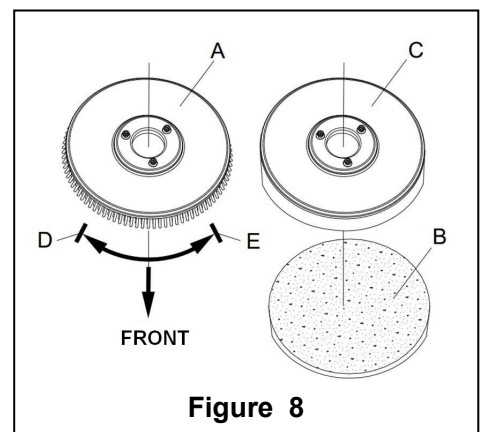

Figure 8
According to the type of floor to be cleaned, the machine may be installed with brush (Figure 8, A), or a pad-holder (Figure 8, B and C).
1. (Only applicable to **AS430B** and **AS510B**): make sure the switch (41) is at the disconnecting (**O**) condition.
2. Press down the handlebar (2) to lift the tank body (26).
3. Put the brush (A) or the pad-holder (B – C) under the case.
4. Use the handlebar (2) to lower the tank body (26) to come into contact with the brush or pad-holder.
5. To install the brush/pad-holder automatically, turn the power switch (41) to the “I” position and press down the safety switch (1). Gently push the machine forward so as to allow the belt wheel at the bottom of the tank body to align with the brush or pad-holder which can then be installed. Then release the safety switch. If necessary, repeat this procedure until the brush/pad-holder is installed.
6. If Step 5 above proves to be difficult, use the manual method by following the arrow head (D) to install the brush/pad-holder (as shown in **Figure 8**).
7. To automatically unload the brush/pad-holder, turn the power switch (41) to the “O” position. Use the hand to hold the handlebar, and press the machine downwards until the guide wheel touches the floor and the brush/pad-holder hangs in the air. Turn the power switch (41) to the “I” position, and press down the safety switch to let the brush or pad-holder turn until the brush/pad-holder drops to the floor.
8. If Step No. 7 above proves to be difficult, use the manual method by turning the brush/pad-holder in the direction opposite to the normal turning direction, and it can be taken off. (as shown in **Figure 8**)